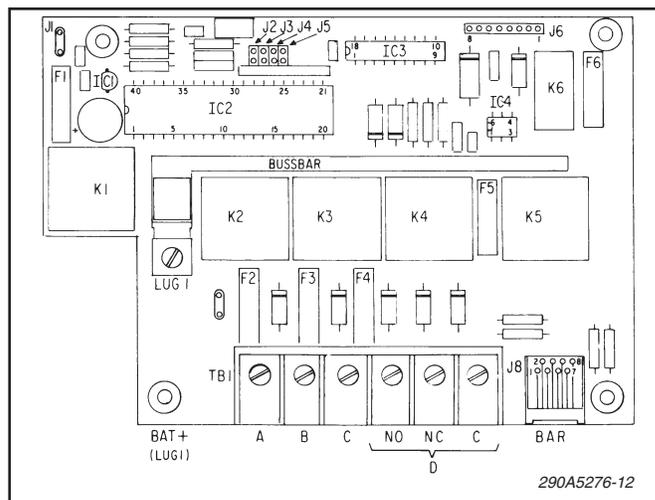

Figure 3-11.
2. Route a #10AWG or larger (depending on accessory loads) red wire through the hole labeled +BAT. Attach it to the large lug-type terminal (LUG1) on the circuit board (see figure 3-11). Since this wire provides the power source for the **siren** and all **relay-switched auxiliary functions**, a good mechanical and electrical connection here is important. Also, ensure that there are no loose wire strands which may cause a short circuit.